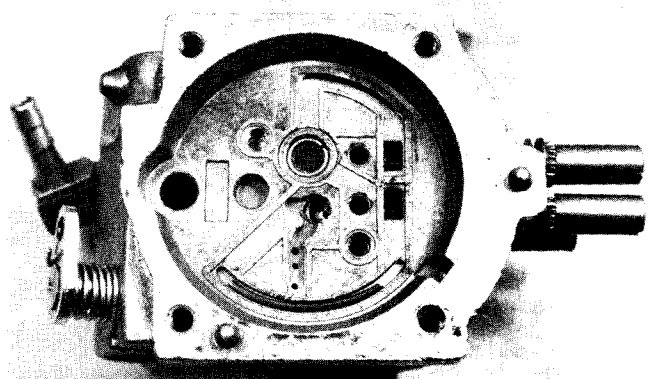

Fig. 56 — Metering Rod and Screen Installed
1. Install metering rod, screen and retaining ring, Fig. 56.